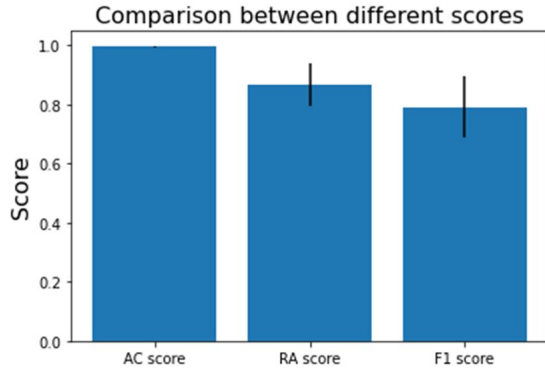

Figure 4: Comparison between different scores.
- We have evaluated the success of this method using the accuracy score, roc auc score, and F1 score. The comparison of these scores are shown in Figure 4.